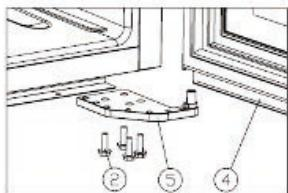

Figure 2
- Unscrew the M5\*16screws ②,dismantle the right lower hinge ⑤.[Figure 2]